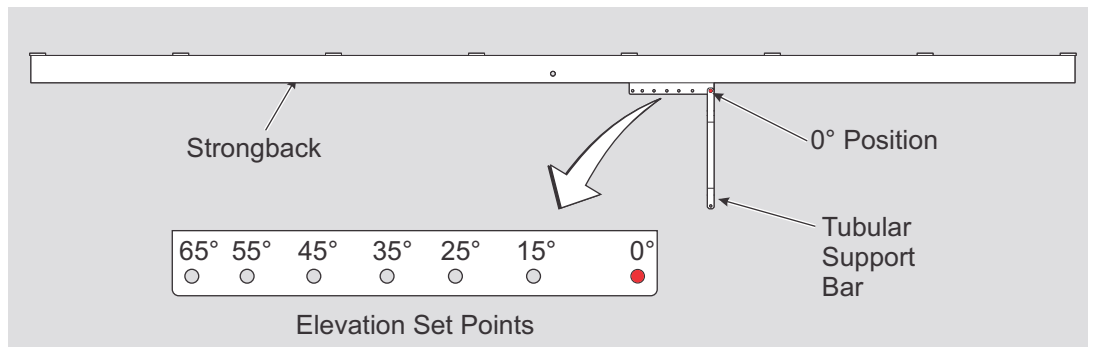

Figure 2-1: Positioning Support Bar
- A. Remove the Support Bar from the Strongback and re-install in the 0° elevation set point. Secure with the 1/2" hardware and finger tighten. (See Figure 2-1)